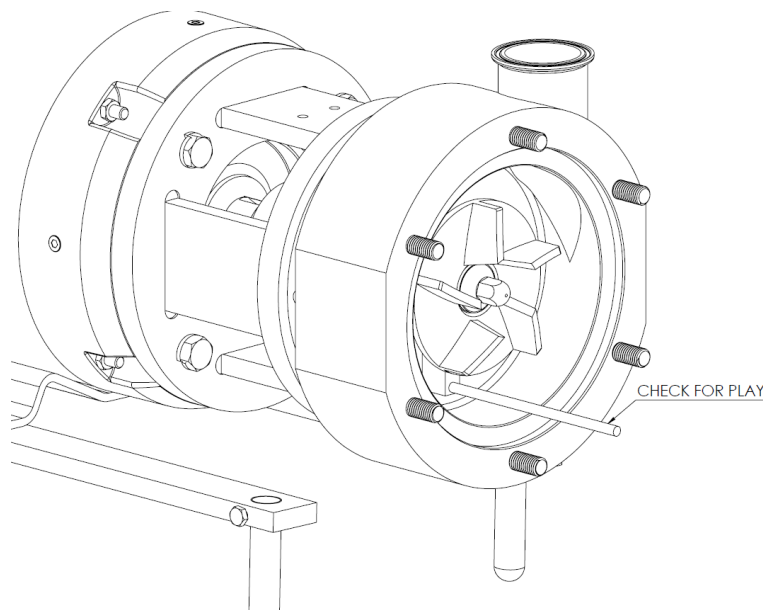

Figure 22
4. After tightening the shaft collar, use the gauge tool to check for play between the rotor back plate and the housing, as shown in Figure 22. If there is noticeable play observed by the gauge tool, loosen the shaft collar and repeat steps 1-3.